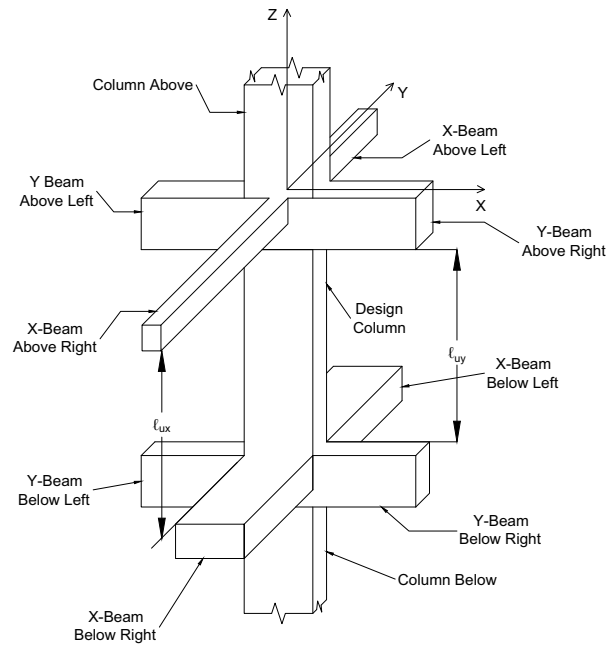

Figure 2-6 Slenderness Input Convention
- The convention for the slenderness input of beam and column dimensions and their orientation is presented in Figure 2-6. Beams above the columns are shown. Same convention applies to beam below the column.